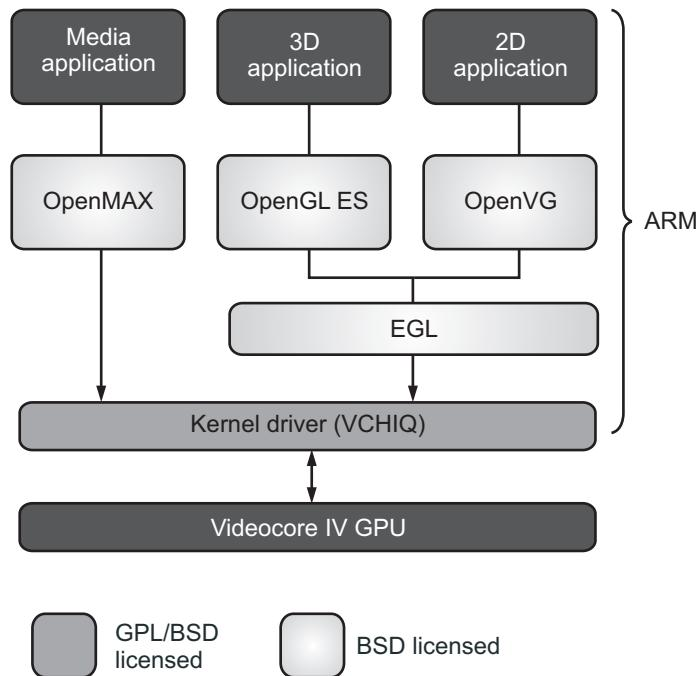

Fig. 2.14 : Raspberry Pi software architecture
- BroadCom VideoCore 4 GPU is shown in above Fig. 2.14. It contains Tile-based render (TBR) which uses 4 cores. It has 40 nm technology.